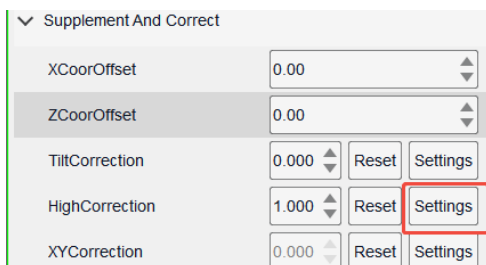

Figure 3.4.10 Entering the Altitude Correction Interface
- 1 **Note:** For more accurate elevation correction data, tilt correction must be performed before elevation correction. Click the Settings button to enter the elevation correction page, as shown in Figure 3.4.10.